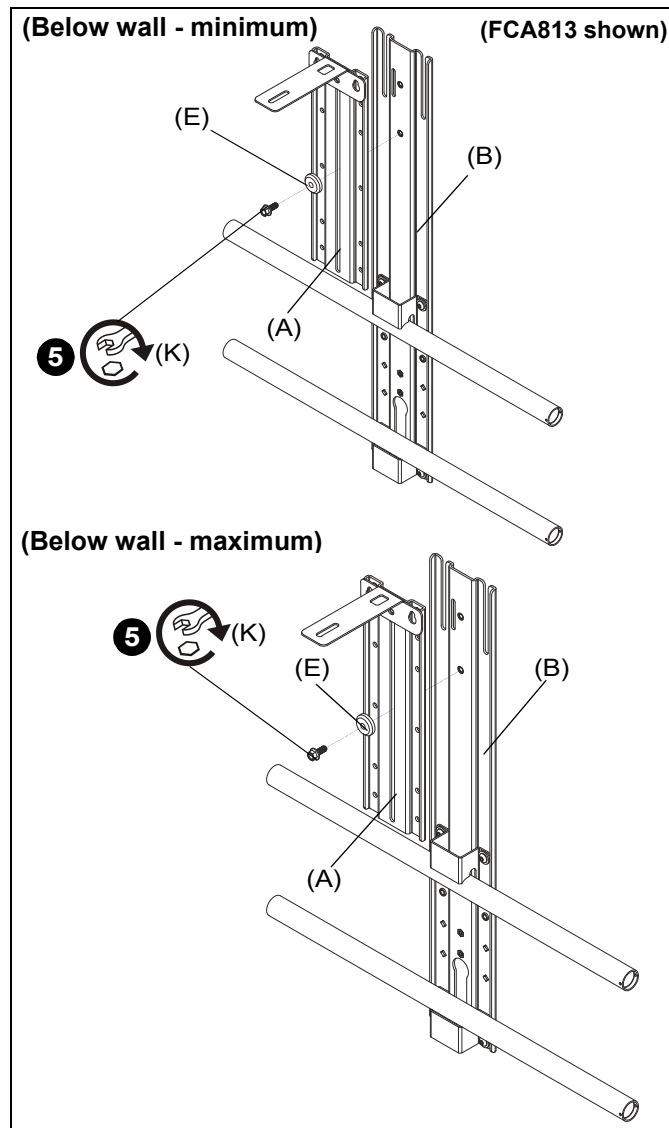

Figure 15
- Use 1/4-20 x 5/8" hex head flange bolt (K) and center washer (E) to secure upright bracket (A) to main bracket (B). (See Figure 15)